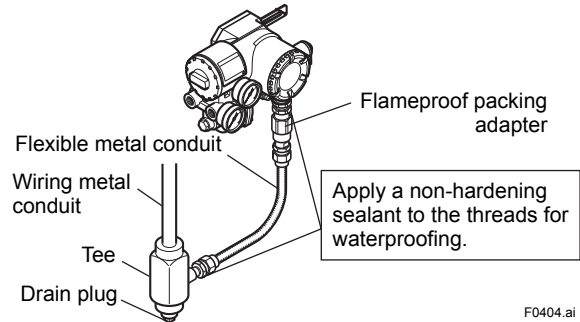

Figure 4.4 Typical Cable Wiring Using Flameproof Packing Adapter
- Wiring cable through flameproof packing adapter for only JIS flameproof type (see Figure 4.4).